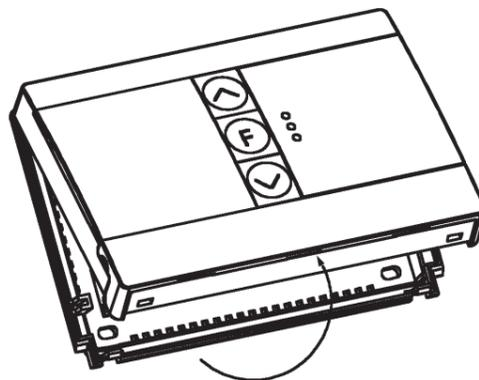

Figure 2
- Remove the wallplate from your thermostat by pressing the release tab on the bottom of the thermostat. See Figure 2.
- Insert the tabs on top of the thermostat body into the slots at the top of the wallplate. Snap the bottom of the thermostat body into the bottom of the wallplate. Refer to Figure 2. (NOTE: Do not force the thermostat onto the wallplate, as the terminal pins may be damaged. If it does not snap properly, the thermostat may not work.)